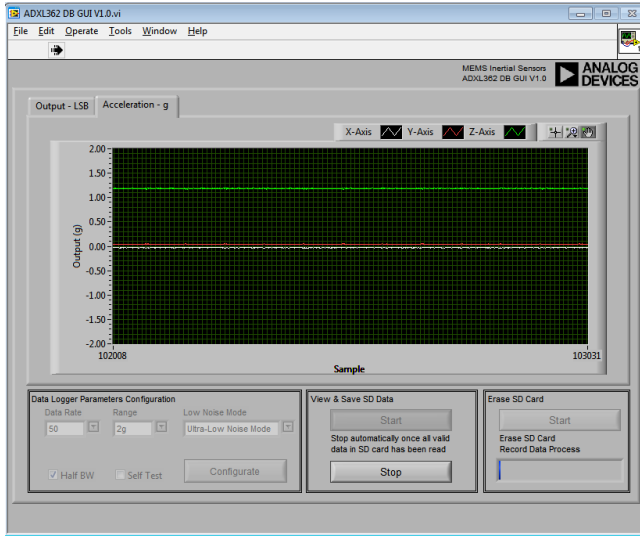

Figure 36. View and Save SD Card Data on PC
- The saved data on SD card can be viewed and saved to PC by clicking **Start** button in **View & Save SD Data** section. This causes many of the options and tabs to be grayed out or to disappear, to prevent software conflicts, until all valid data in SD card has been read or the **Stop** button in **View & Save SD Data** section is clicked. The saved acceleration data on SD card then begins to flow across the screen (See Figure 36).